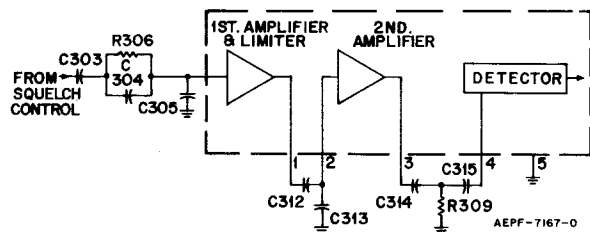

Figure 25. Squelch Input Circuit
(1) Squelch Input Circuit (Refer to Figure 25)